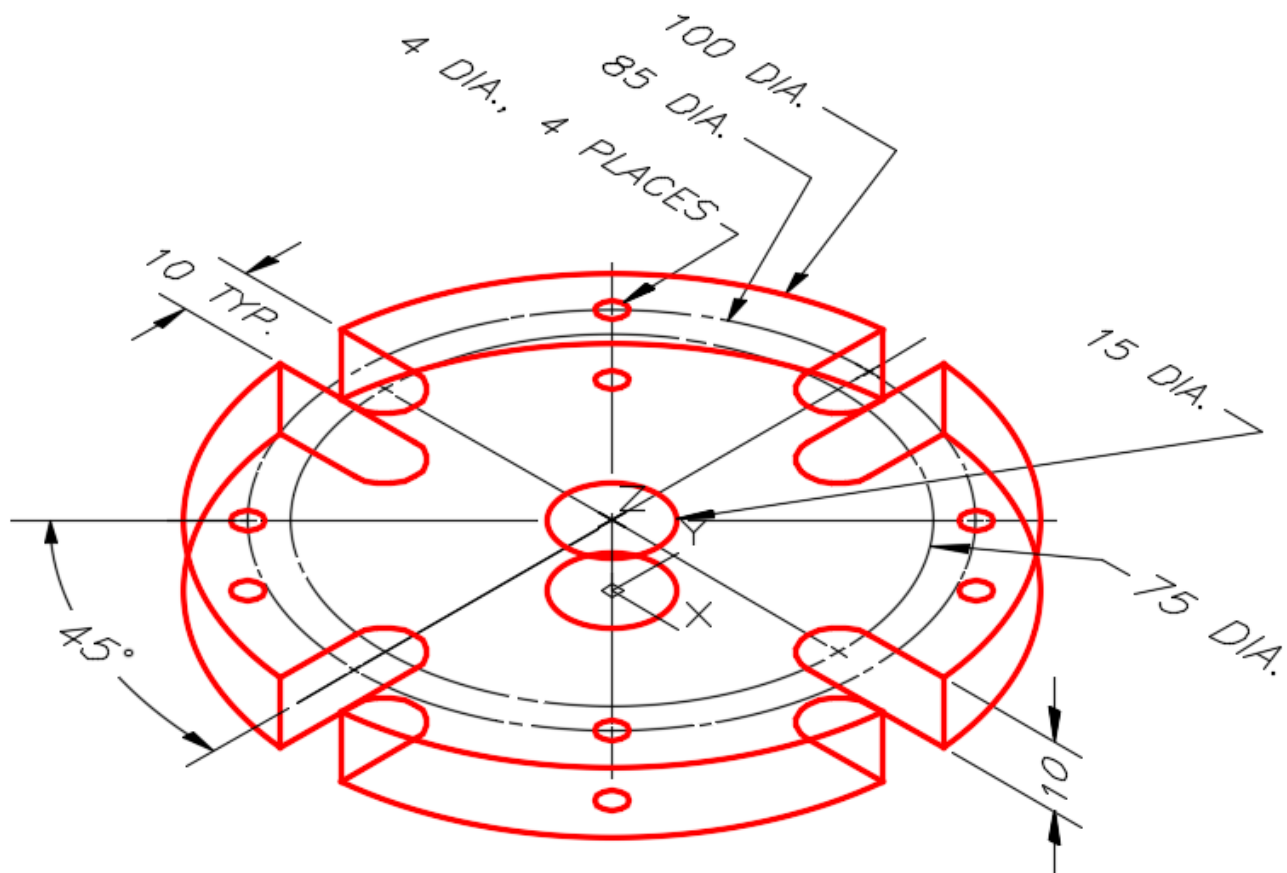

Figure Step 3A
Step 3 On layer: Solid 1, draw a solid model of the object. (Figure Step 3A and 3B)